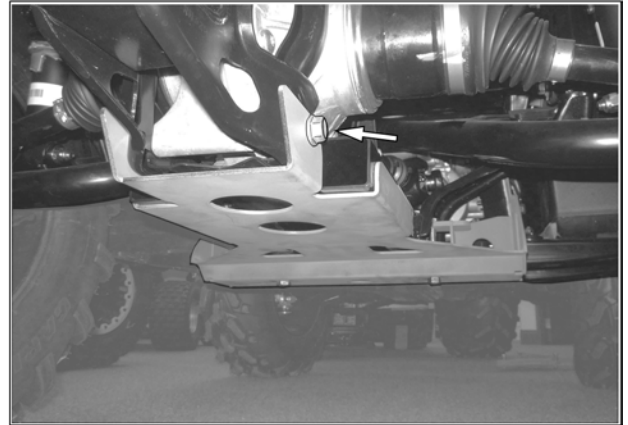

Fig. 7
6. Tighten the rear differential mounting bolt, installed earlier at the back end of the rear anchor plate, to 50 N•m [37 lb•ft]. See Fig. 7